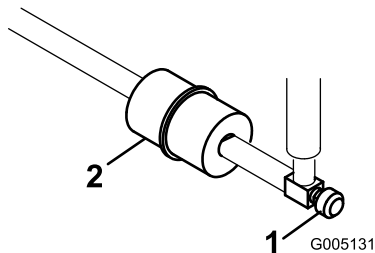

Figure 44
The in-line fuel filter is in the fuel line between the fuel tank and carburetor (Figure 44).
1. Close the fuel-shutoff valve (Figure 44).
2. Place a drain pan under the filter, loosen the hose clamp on the carburetor side of filter, and remove the fuel line from the filter (Figure 44).
3. Loosen the other hose clamp and remove the filter (Figure 44).